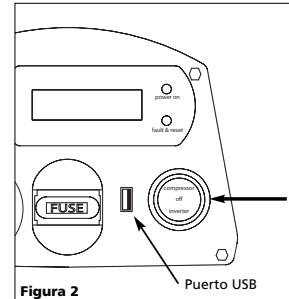

Figure 2
The inflator can supply power to many electronic, auto accessories by simply inserting the items plug into the USB power port (see Figure 2).
2. Turn COMPRESSOR switch on (see Figure 2).